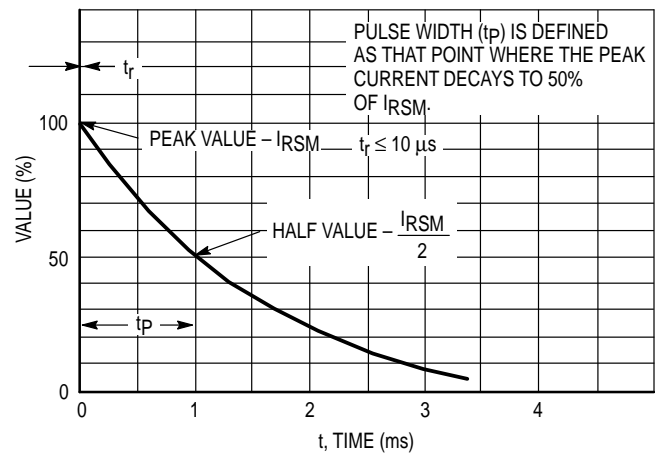
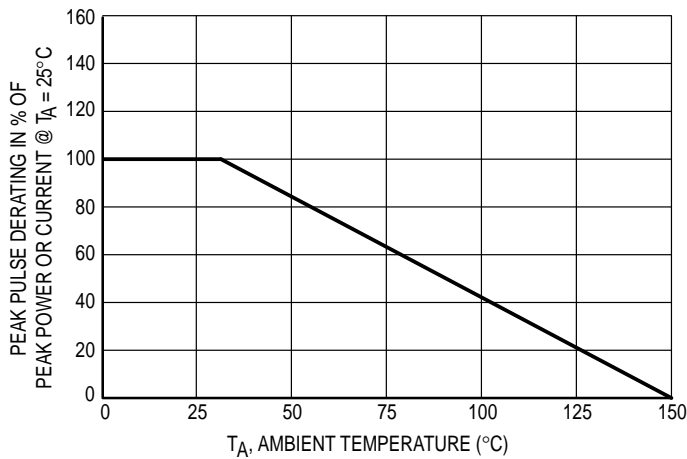

Figure 2. Pulse Waveform
Figure 3. Pulse Derating Curve
NOTES: 1. Nonrepetitive current pulse per Figure 2 and derated above  $T_A = 25^\circ\text{C}$  per Figure 3.
† Surge current waveform per Figure 2 and derate per Figure 3 of the General Data — 1500 Watt at the beginning of this group.
**Ipp** Peak Pulse Current — See Figure 2